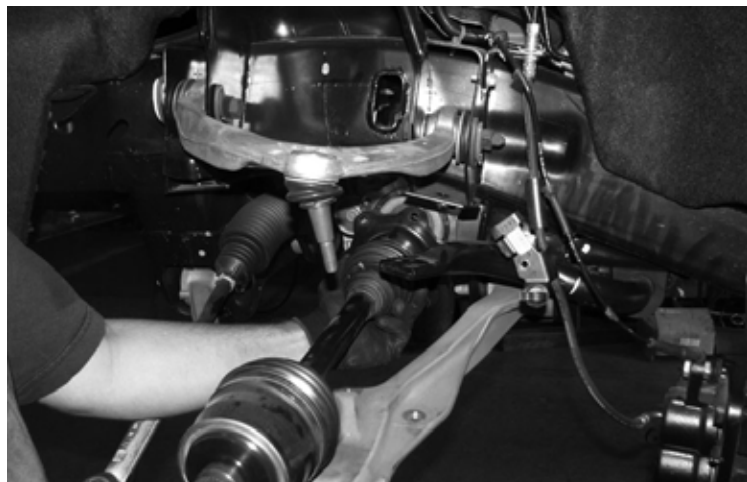

FIGURE 15 - STEP 10
10. Remove and save the bolts attaching the axle shaft to the differential. Remove the axle shaft. **SEE FIGURE 15**